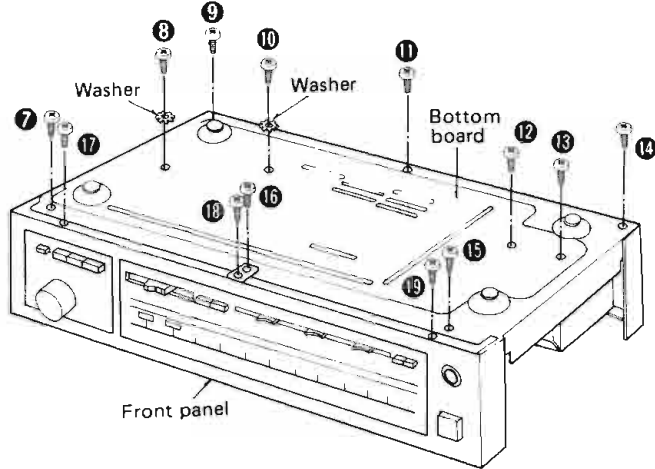

Fig. 2
2. Remove the 10 setscrews (Fig. 2 : ⑦ ~ ⑯) of the bottom board.
2. Remove the 3 setscrews (Fig. 2: ⑰ ~ ⑲) of the front panel.